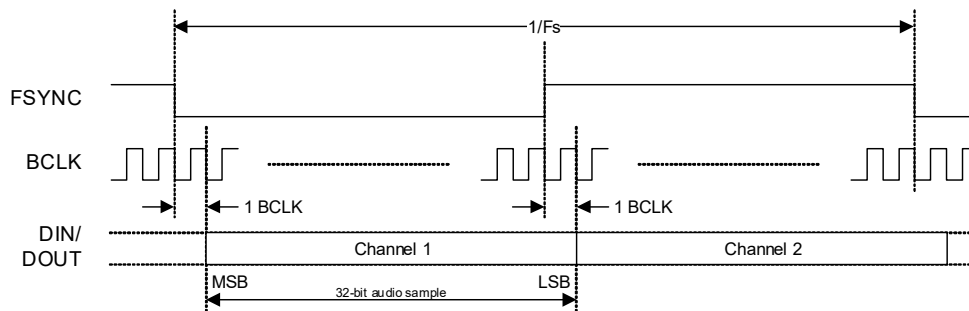
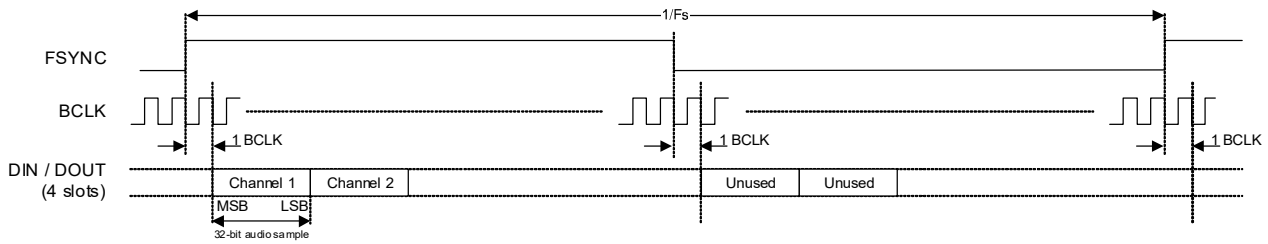

Figure 4-15. I²S Data Format
Figure 4-18. TDM Data Format, 4-Slot Example (FSYNC = Square Wave)
The ASP data format in I²S, Left-Justified, and TDM interface modes as illustrated in Fig. 4-15 through Fig. 4-18. Refer to Table 4-12 for the applicable definition.
- If I²S data format is selected, the ASP supports audio channels 1–2 as shown in Fig. 4-15. The minimum BCLK rate is $64 \times F_s$ (where F_s is the sample rate). In ASP Primary Mode, the minimum BCLK rate of $64 \times F_s$ is not supported for sample rates of 16 kHz or 32 kHz. A higher BCLK frequency can be used, resulting in unused BCLK cycles between the LSB of one sample and the MSB of the next.
An example of the 4-slot TDM format in ASP Primary Mode with the FSYNC signal configured as a square wave is shown in Fig. 4-18. In this example, audio channels 0 and 1 occupy TDM slots 0 and 1 in the high (Logic 1) phase of the FSYNC signal, TDM slot 0 and 1 in the low (Logic 0) phase of the FSYNC signal are unused.